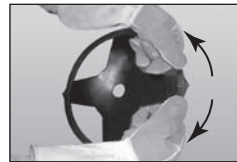
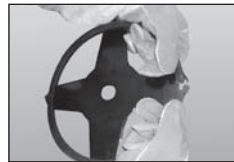

Fig. 6A
Fig. 6B
2. Refer figure 6A and Figure 6B, hold the blades cover, and pull slightly the cover outward the cover can be taken apart.